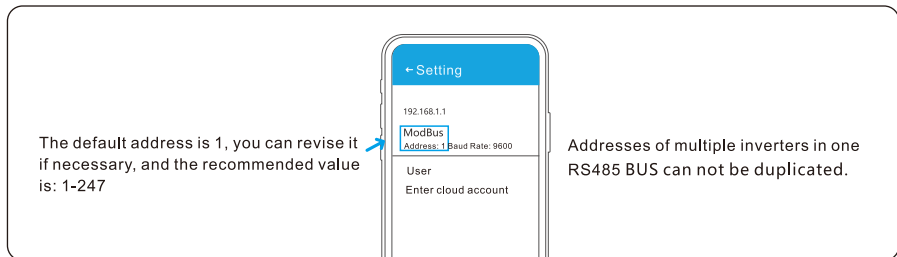

Figure 5.23 Revise the Modbus address and save
Step 3 Check the Modbus address in Figure 5.23, the default address is 1, click to revise the address and save it, as shown in Figure 5.23.